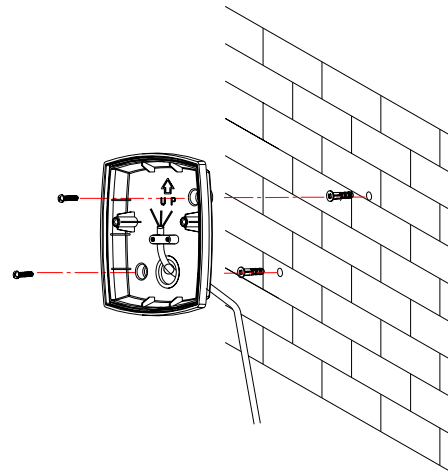

FIGURE 11
- (4) Using the backplate as a template to mark the position of two fixing holes on the wall. Drill these two holes by inserting the plastic wall plugs supplied. Fix the backplate using the two screws provided. (FIGURE 11)